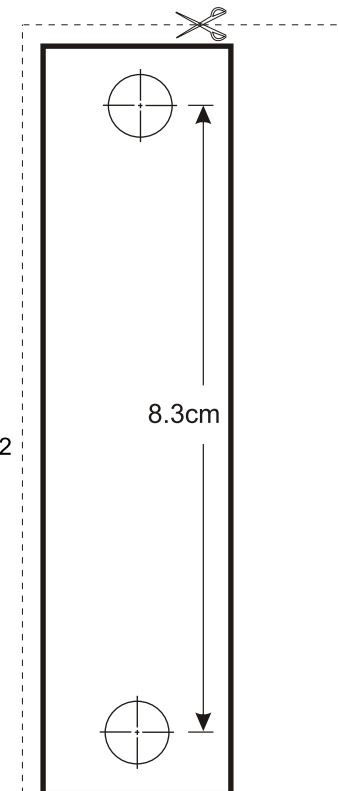

Figure 2
- b. Draw mark 83 mm vertically apart on the wall. (you can use Figure 2)